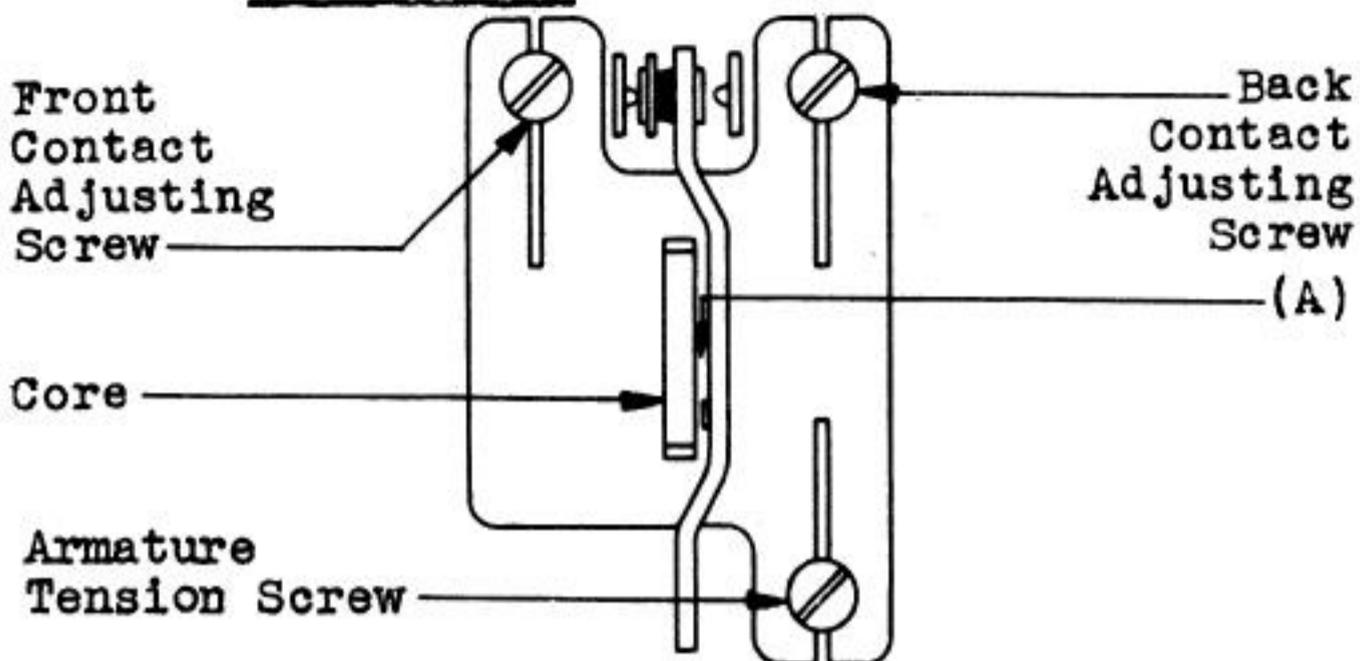

Fig. 106 - Location of Adjusting Screws
2.10 Minimum Front Contact Make - Fig. 106 (A): The values of "Front Contact Make" referred to below are tabulated in the figures shown on Pages 14 and 15. The particular value to be used shall be that corresponding to the figure number and the armature travel specified on the circuit requirement table.